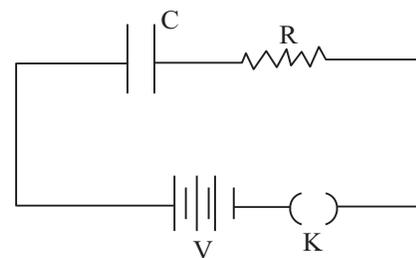

Fig. 25.1
- Refer to the circuit shown here (Fig. 25.1). Let the capacitor be uncharged initially. On closing the key at  $t = 0$  the charging current  $I$  in the circuit decreases exponentially with time from its initial value  $I_0 = V/R$  to zero as